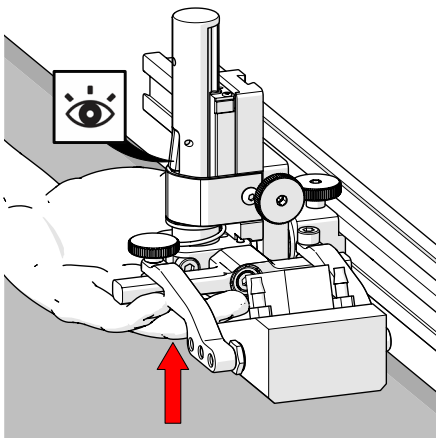
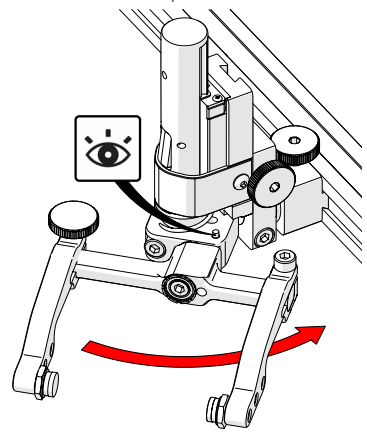

Fig. 111 - Latch probe holder
Fig. 117 - Stop post locates 90°
1. Ensure the probe holder is in the latched, upper position. Lift the probe holder until the latch is fully exposed and snaps out to lock (Fig. 111).
1. Ensure the probe holder is in latched, upper position (*Fig. 111*).
To return the transverse adjustment to neutral ( $90^\circ$ ). The probe holder must be in the latched, upper position (*Fig. 111*). Rotate the yoke until the stop post contacts the base of the probe holder (*Fig. 117*). Then tighten the transverse adjustment screw.
1. Ensure the probe holder is in the latched, upper position (*Fig. 111*).
1. Ensure the probe holder is in the latched, upper position (Fig. 111).